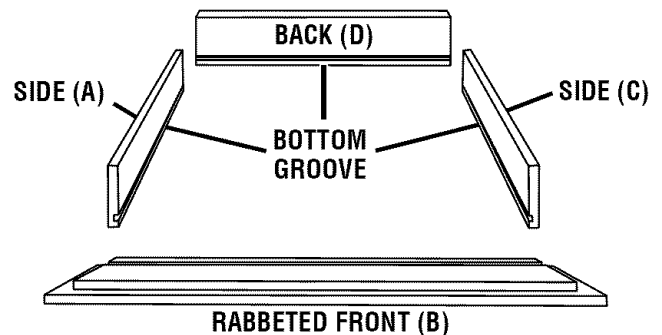

Fig. 31
- Mark the boards for the drawer or box on the inside with identifying letters near the bottom edge. See Figure 31.